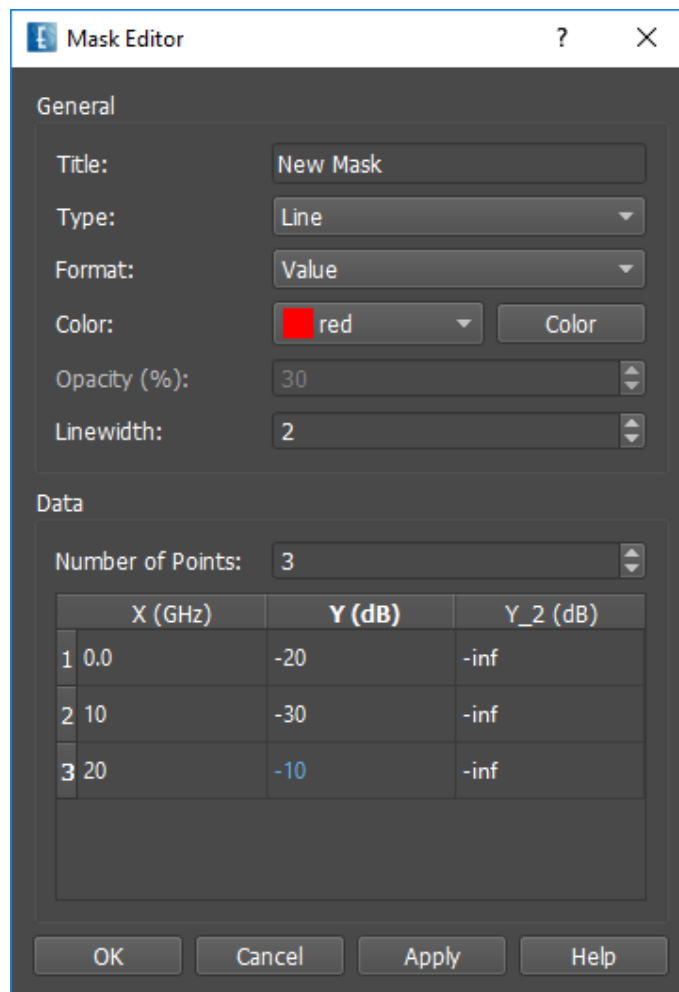

Figure 25.3.: Mask Editor
- **Add Mask** Create a new mask and open the mask editor, see Figure 25.3